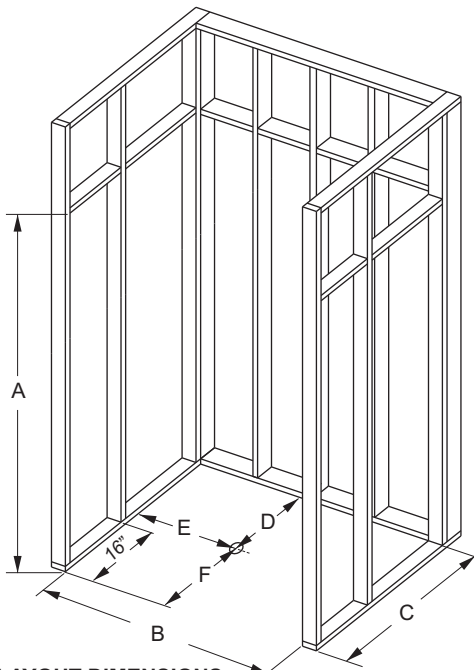
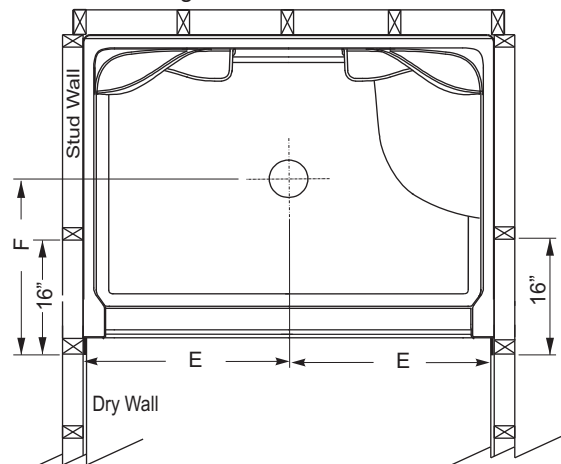

FIGURE 1 - LAYOUT DIMENSIONS
FIGURE 2 - TOP VIEW OF THE SHOWER STALL IN THE ALCOVE
- The Shower Stall is to fit into framed alcove as shown in Figure 1 and Figure 2.
- Framing: Inside dimension of the studded alcove are to be as specified in Figure 1.
- Build solid framing to the dimensions in Figure 1.
- The drain location on the shower is shown in figure 1.